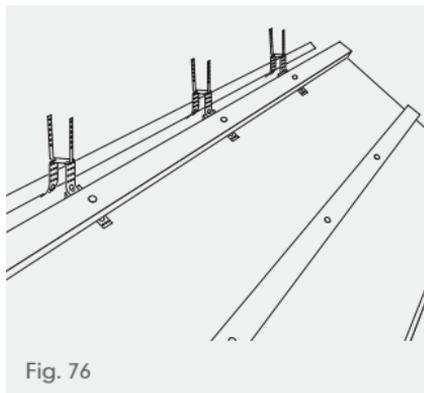

Fig. 76
- 2 Fix the top course tiling battens into position, over the ridge batten brackets, leaving approximately 45mm between the rafter apex and the tiling batten to ensure 75mm of ridge tile overlap (Fig. 76).